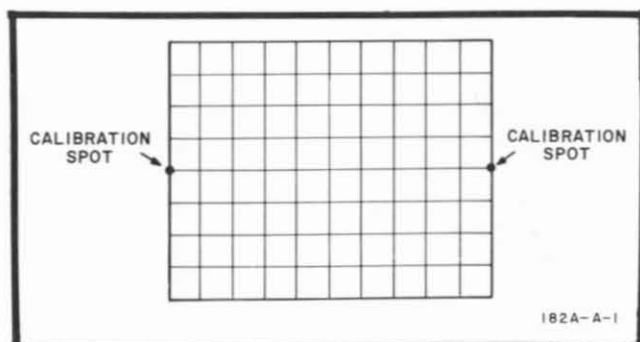

Figure 5-10. Calibration Display
- (1). Black lead: connect to chassis (power ground).
- (2). Yellow lead: connect to emitter of A7Q3.
- (3). Red lead: connect to +100-volt supply input of horizontal amplifier. (A convenient connection point is to +100V input white-red (92) connection located just below Phase/Bandwidth switch.)
- g. Adjust X1 Gain Adj A7R40 for exactly 10 divisions of separation between spots (figure 5-10).
- e. While alternately connecting and disconnecting resistor to emitter of A7Q3, adjust X1 Gain Adj A7R40 for exactly 10 major divisions of separation between spot positions (figure 5-10).